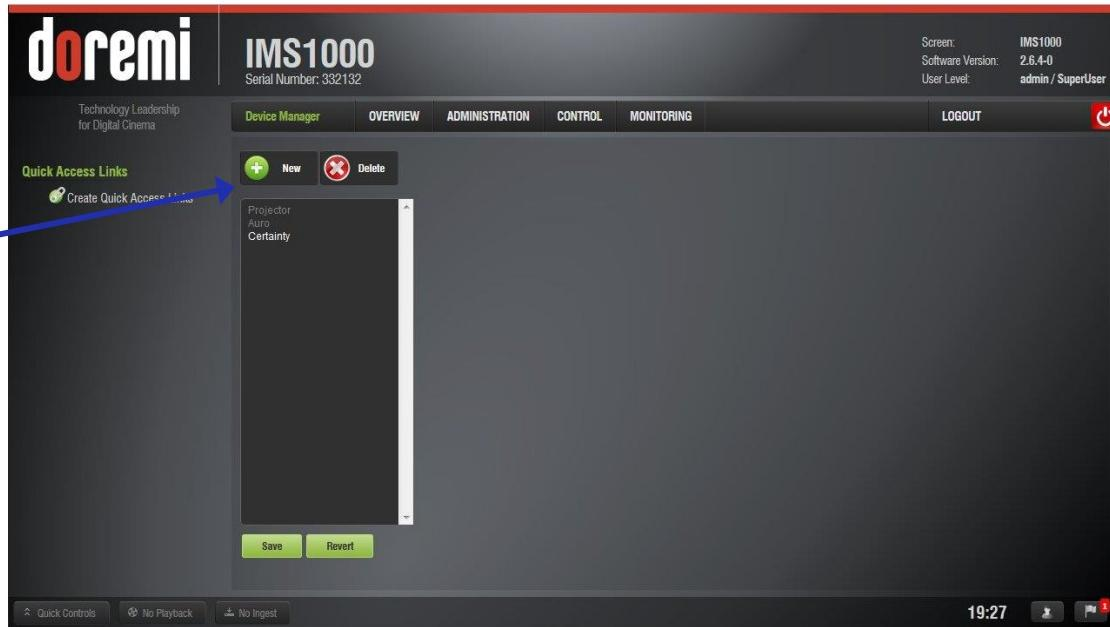

Figure 126: Device Manager
- The following window will appear (Figure 126):
To connect a projector to the unit (server), click the New button (Figure 126).
- To add the eCNA device, click the New Device button in the Device Manager window (Figure 126).
- To add the JNior device, click the New button in the Device Manager window (Figure 126).